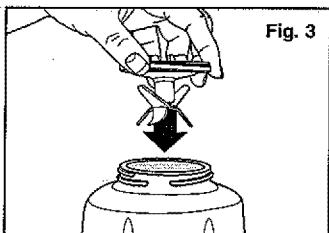

Fig. 3
3. Place the blade assembly with the gasket in the bottom opening of the jar [Fig.3].